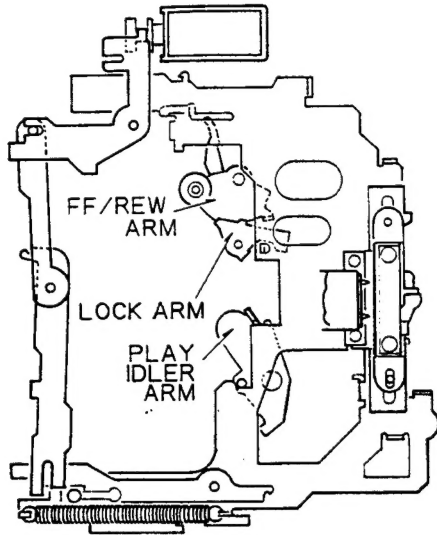

Fig. 21
- (1) Fig. 21 shows the play state. The heading solenoid is moved in the A direction from the play state to release the play lock arm via L arm, solenoid lever and arm (A).